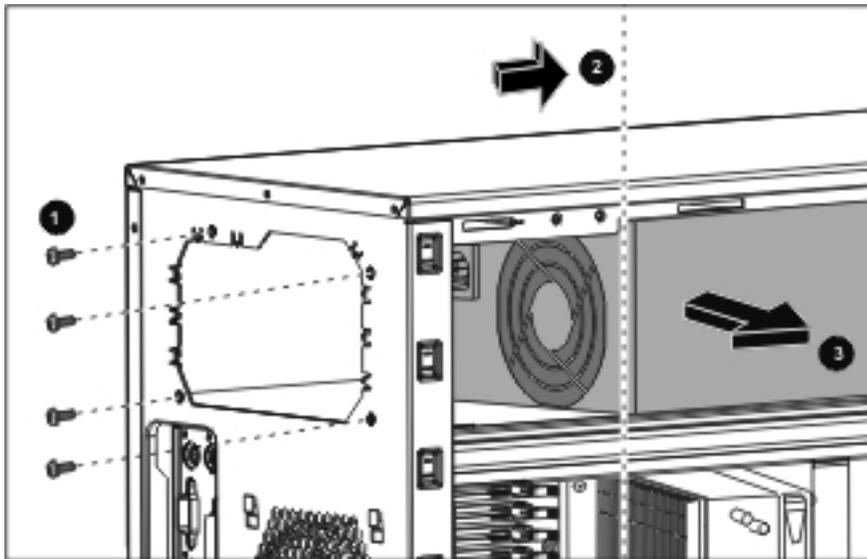

Figure 2-48: Removing the power supply
6. Remove the four screws securing the power supply to the chassis (1). These screws are located at the rear of the chassis.
7. Slide the power supply towards the front of the server to the position indicated in Figure 2-48 (2).
8. Remove the power supply out of the chassis (3).